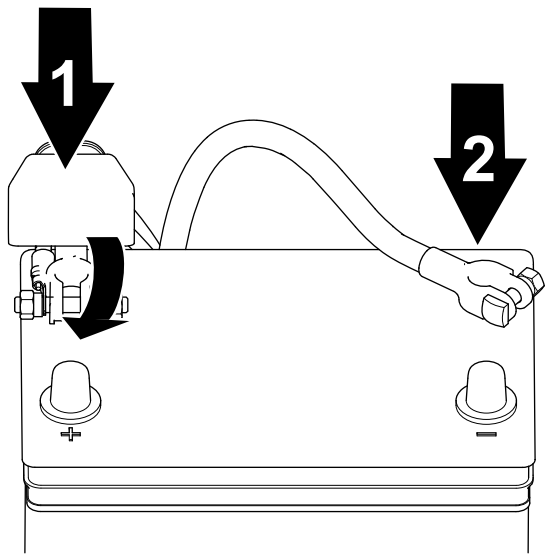

Figure 34
1. Connect the positive cable to the battery and tighten the battery-clamp nut (Figure 34).
2. Connect the negative cable to the battery and tighten the battery-clamp nut (Figure 34).